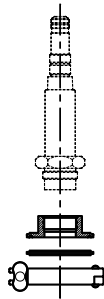

Figure 2
- Tri-clamp - often required in food industry for easy opening and cleaning. (see Figure 2)